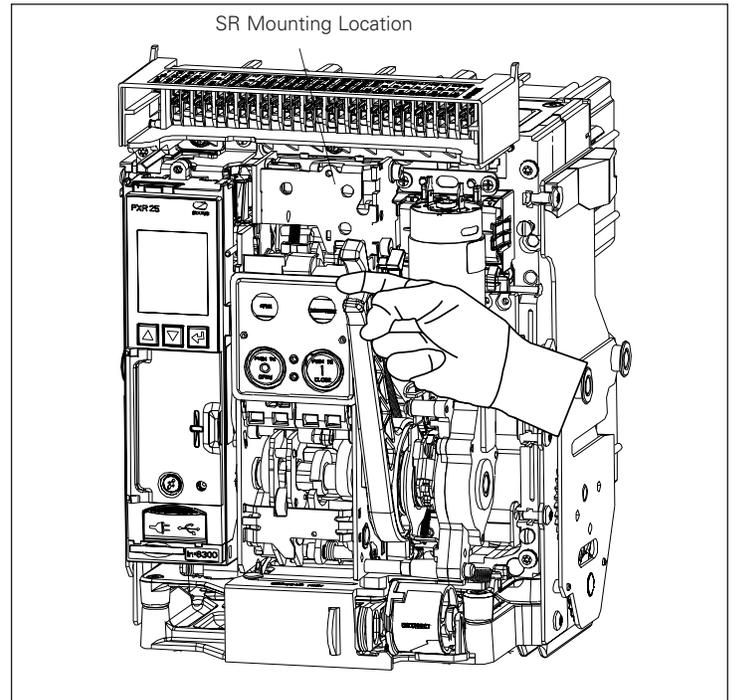

Figure 5. Step 3.
**Step 3:** To gain access to the mounting location, pull the charging handle down as shown in Figure 5.